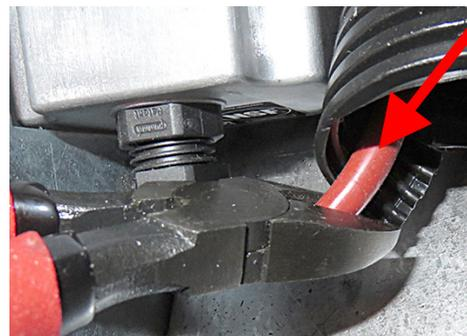

Figure 13
15. At the lower end of the OQS (Oil Quality Sensor), cut the opposite end of the orange cable and discard the cable (see Figure 13).